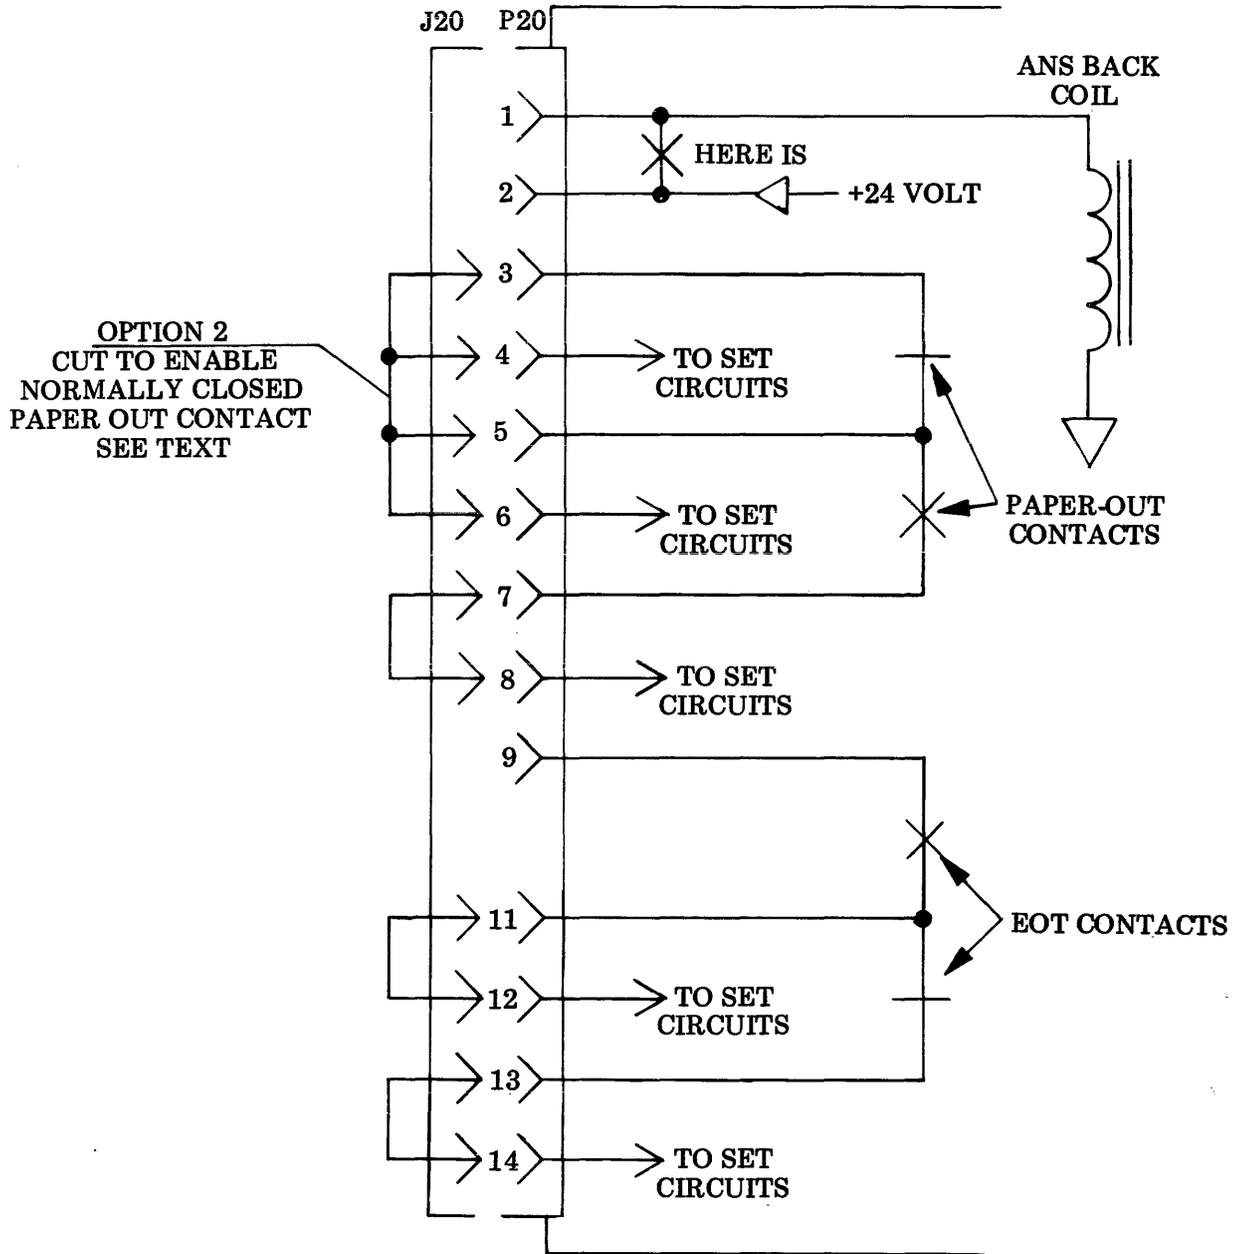

Figure 4 - Wiring for Control Contact Interface With Connector J-20 Installed
2.09 Connector P20 on the circuit card assembly (Figures 4 and 5) affords access to the "paper-out" and "EOT" contacts and provides connection for a parallel "HERE IS" contact to operate the answer-back trip magnet.
2.10 There is an additional "Option 2" (Figure 4) provided at P20. This option strap disables the normally closed "paper-out" contact (contact will be shunted). Using a dc interface, if this contact were not shunted, the set motors would turn off in the event of a "paper-out" (form-feed sets) a "low-paper" (friction feed sets) condition at the printer. Using a EIA interface, if this contact were not shunted, there would be an OFF signal at the "Data Terminal Ready" lead and the "Send Data" lead in the event of a paper-out condition.